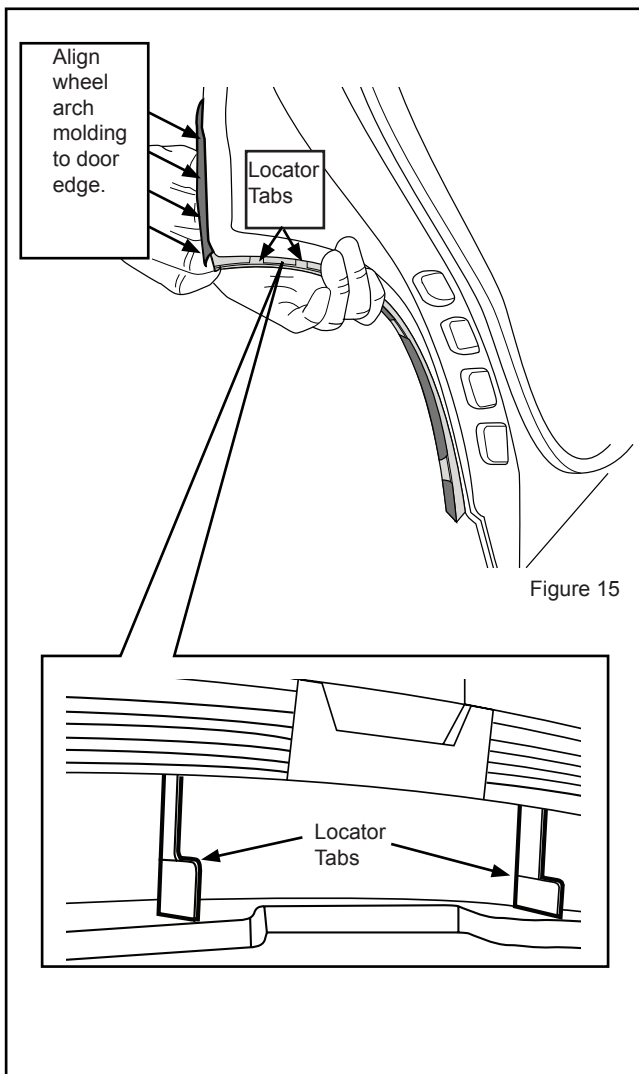

Figure 15
- Align rear door wheel arch molding to rear door edge of vehicle, the (2) inner locator tabs on the wheel arch molding should rest against the bottom edge of the rear door as shown below. Figure 15